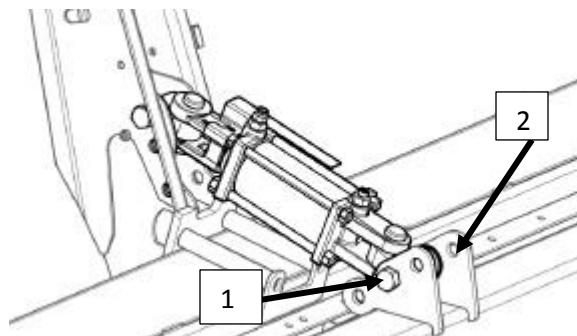

Figure 19
1. The model year 2020 has a new style cylinder. This cylinder is larger to assist in moving the head. The cylinder also uses cast end caps and welded clevises at each mounting point. Figure 19 A safety strap still retains the cylinder from over-extending. The first two positions for the cylinder are the same as MY2019 cylinder. There is no third position